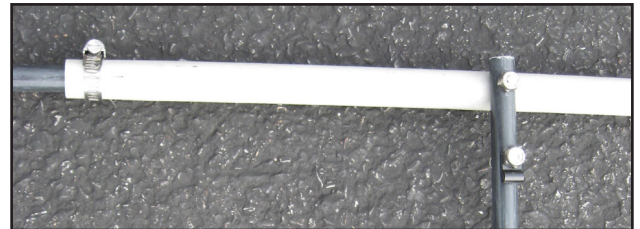

Fig. 68
- Select one of the Spreader Assemblies and position it to span both elements on one side of the Boom. Align the hole in the end of the Spreader Assembly with the hole in the 0.75" OD Tube of an Element Assembly. Select a 10-24 x 1.5" SS Machine Screw and insert the screw through the bottom of the Element Assembly then through the end of the 0.5" OD Rod of the Spreader Assembly as shown in Fig. 68. Fasten with a 10-24 Anti-vibration Nut. Tighten well.